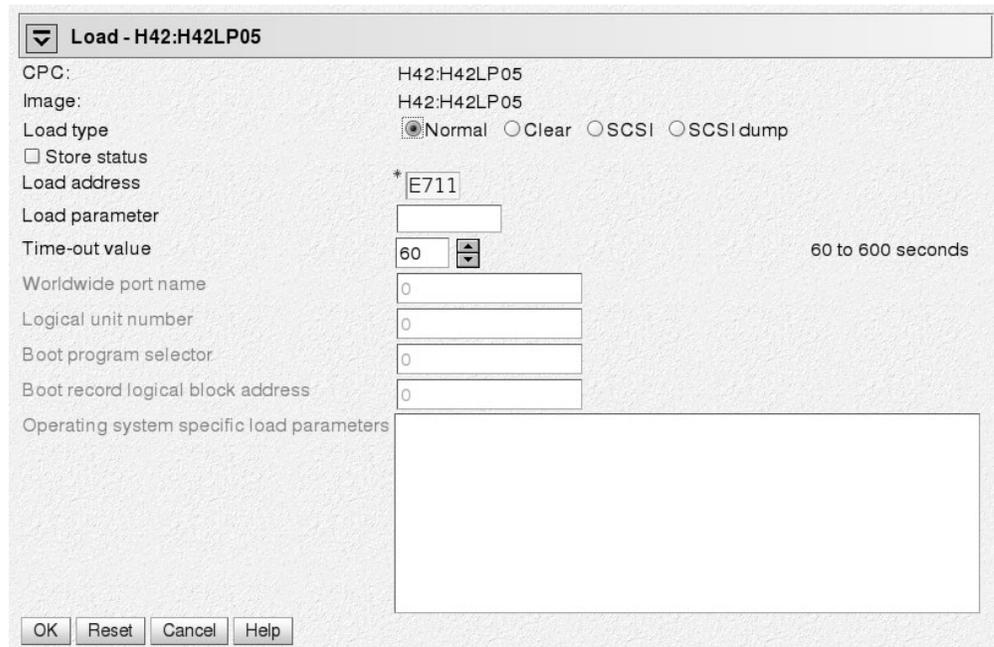

Figure 68. Load panel for booting from tape or DASD
- a. Select **Load type** "Normal" (see Figure 68).
- a. Select **Load type** “Normal” (see Figure 68 on page 397).